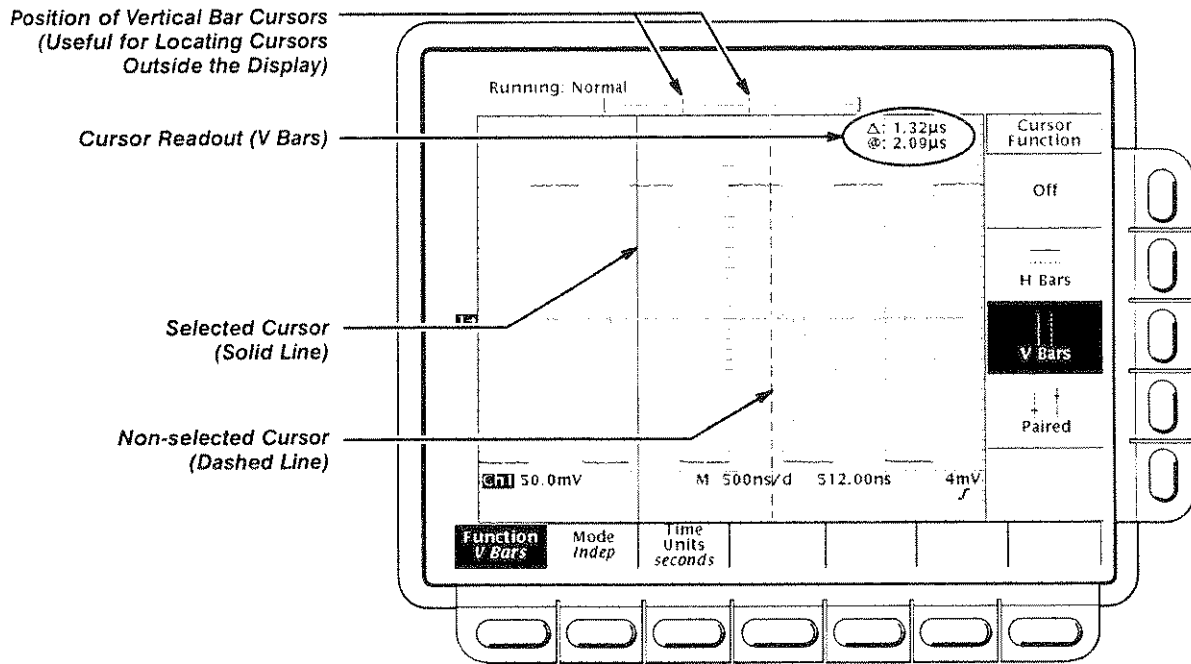

Figure 3-7: V Bars Cursor Menu and Readouts
- **V Bars:** the value after  $\Delta$  shows the time (or, optionally, frequency) difference between the cursors. The value after @ shows the time (frequency) of the selected cursor relative to the trigger (see Figure 3-7).
To take cursor measurements press the **CURSOR** button to display the Cursor menu (Figure 3-7).